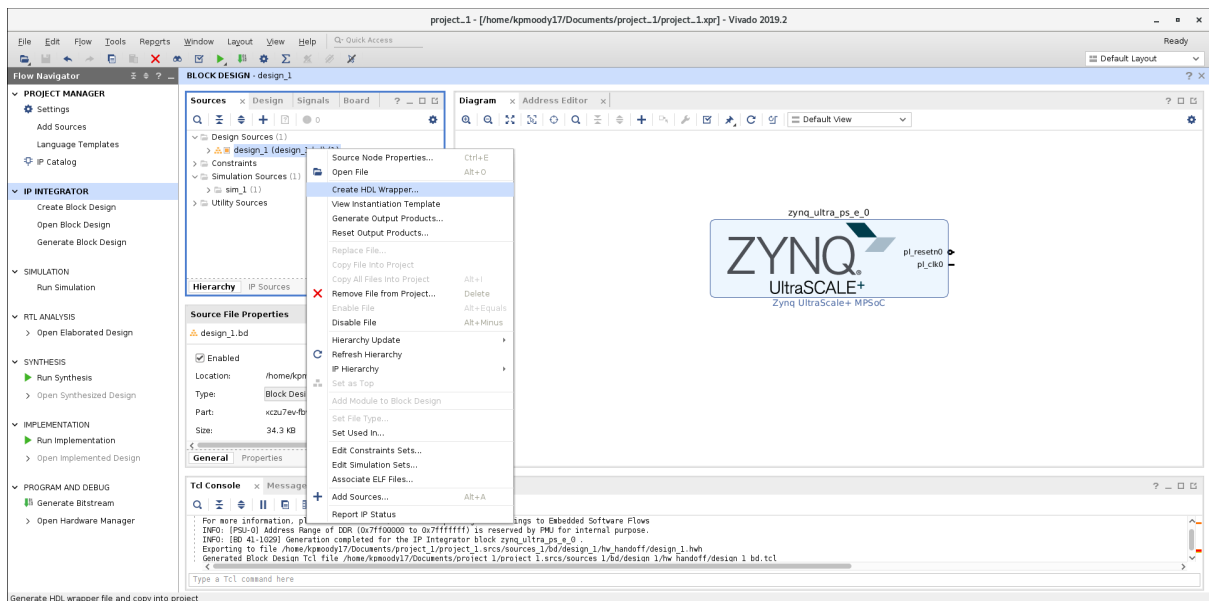

Figure 3
Notice that UART and SD are both enabled. On the block in the block diagram, there will only be the pl_reseth0 and pl_clk0 ports remaining as shown in Figure 3, which we will leave unconnected.
- Next, in order to build the project, Vivado needs the block diagram to have a top level wrapper module, so in the upper left pane, **click on “Sources”** and then **right click on “design_1”** next to the little orange symbols. From the menu, **click “Create HDL Wrapper...”** and then click “OK.” This is shown in Figure 3.